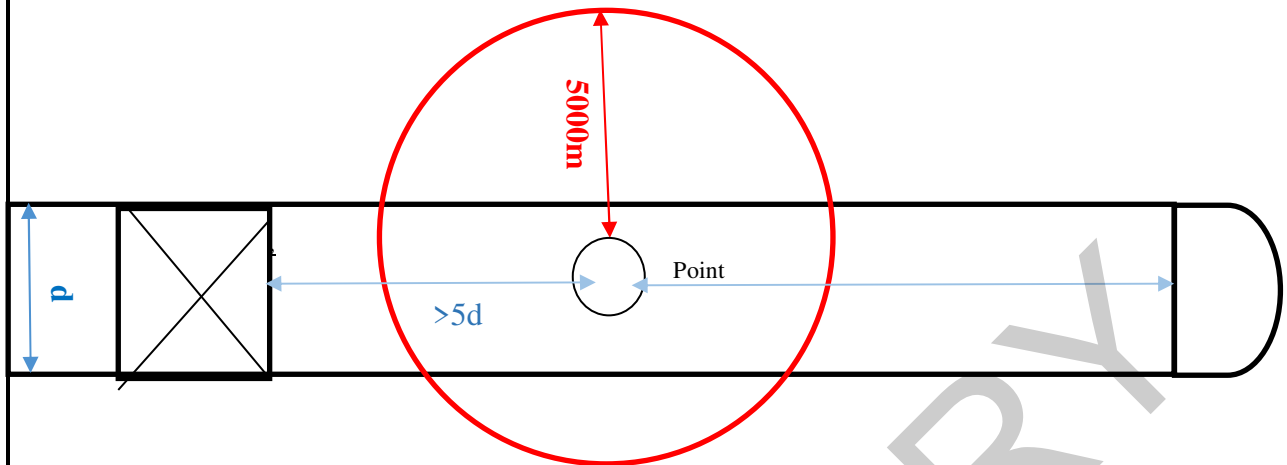
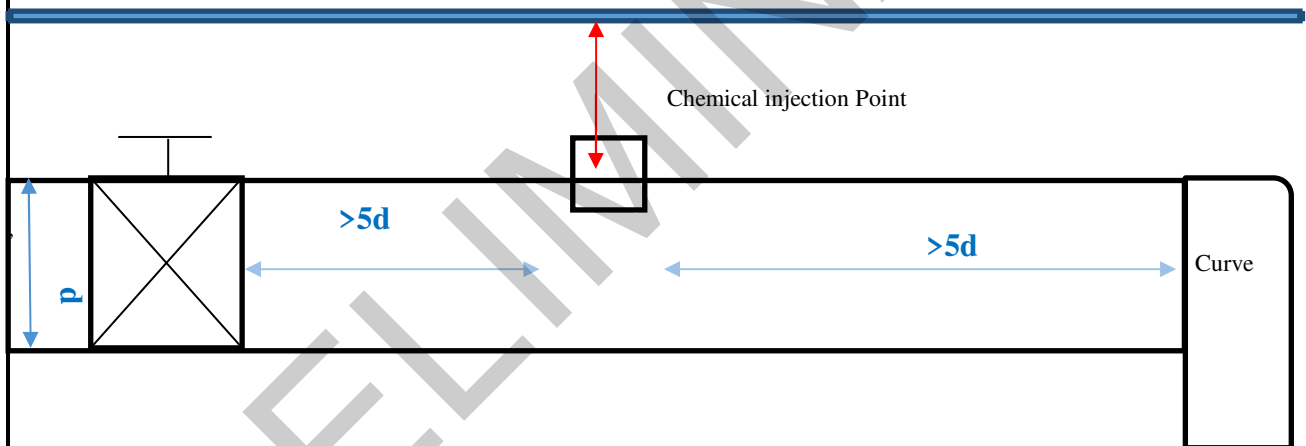

Figure 10- Superior view
Figure 11- Lateral view
- 5.1.6 Every chemical injection point shall have adequate clearance the operation of the recovery tool. The clearance shall be at least one free cylindrical area of 50,0 cm radius and 2.0 m in length with respect to the connection of the monitoring point, according to Figure 10 and Figure 11.